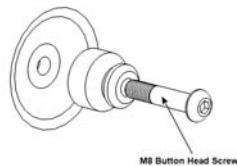

Figure 3
2. Attach mounting buttons to plasma using the M8 bolts. Tighten using the included Allen key (see Figure 3 and Figure 4).